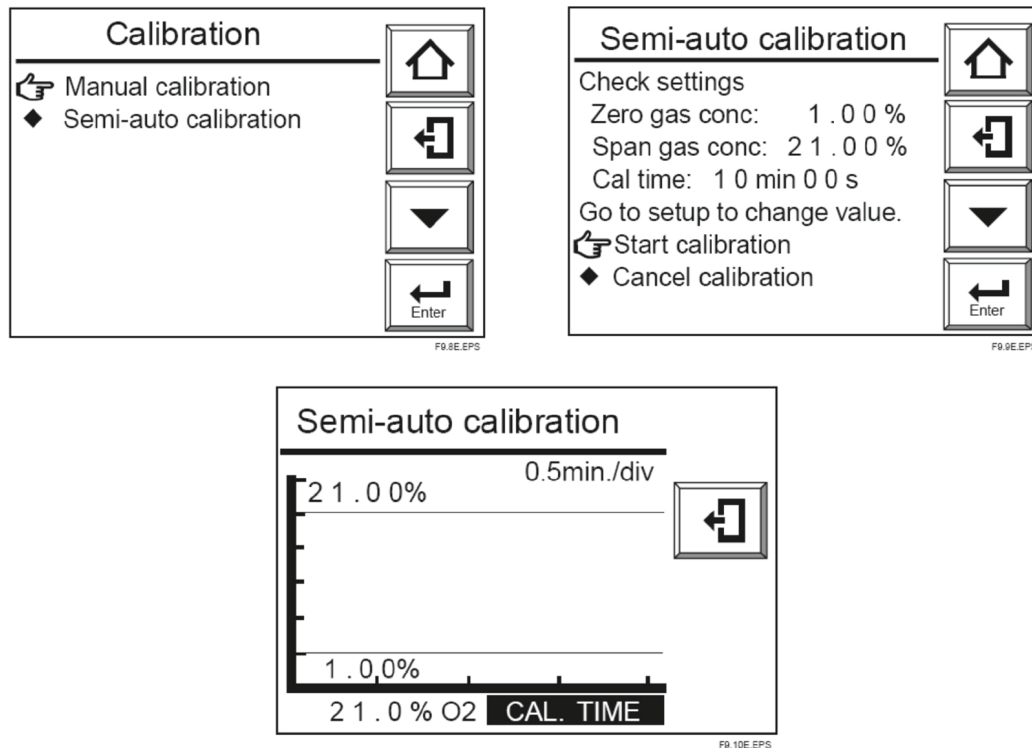

Figure 8.4
- (1) Press the Setup key in the basic panel display to display the Execution/Setup display.
- (2) Then select Calibration from the Execution/Setup display. The Calibration display shown in Figure 8.4 appears.
- (3) (2) Select Semi-auto calibration to display the Semi-automatic calibration display shown in Figure 8.4
- (4) (3) Select Start calibration. The display shown in Figure 8.4 appears, and then start calibration.